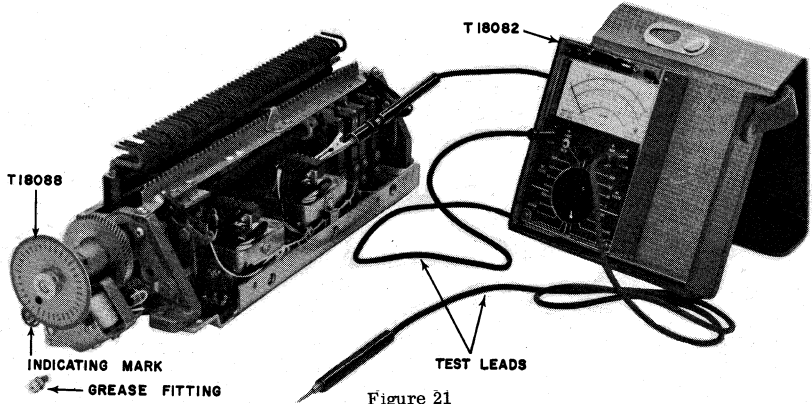

Figure 21
- Adjust the cams to operate the contacts at the degrees of translator shaft rotation as indicated on the schematics for the machine (plus or minus 2°). The following method is suggested (Figure 21).